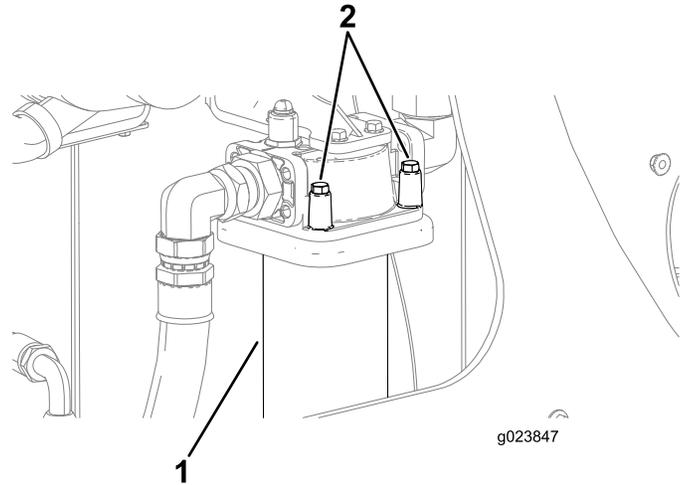

Figure 120
3. Align a drain pan or several rags under the charge filter (Figure 120).
4. With one hand under the hydraulic-return filter, remove the 4 bolts as shown in Figure 120.
7. Align the new hydraulic return filter to where it seats, and tighten the 4 bolts (Figure 120).